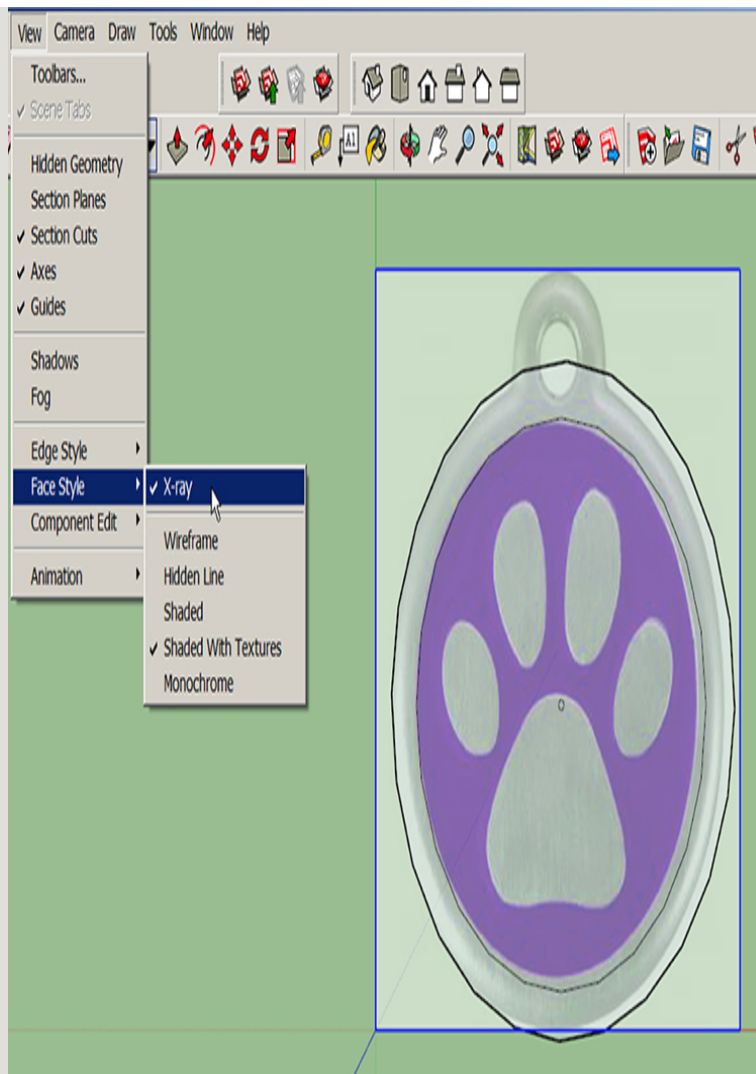

Figure 3-55 Make the faces transparent to see the picture.
3. Make the faces transparent (Figure 3-55).